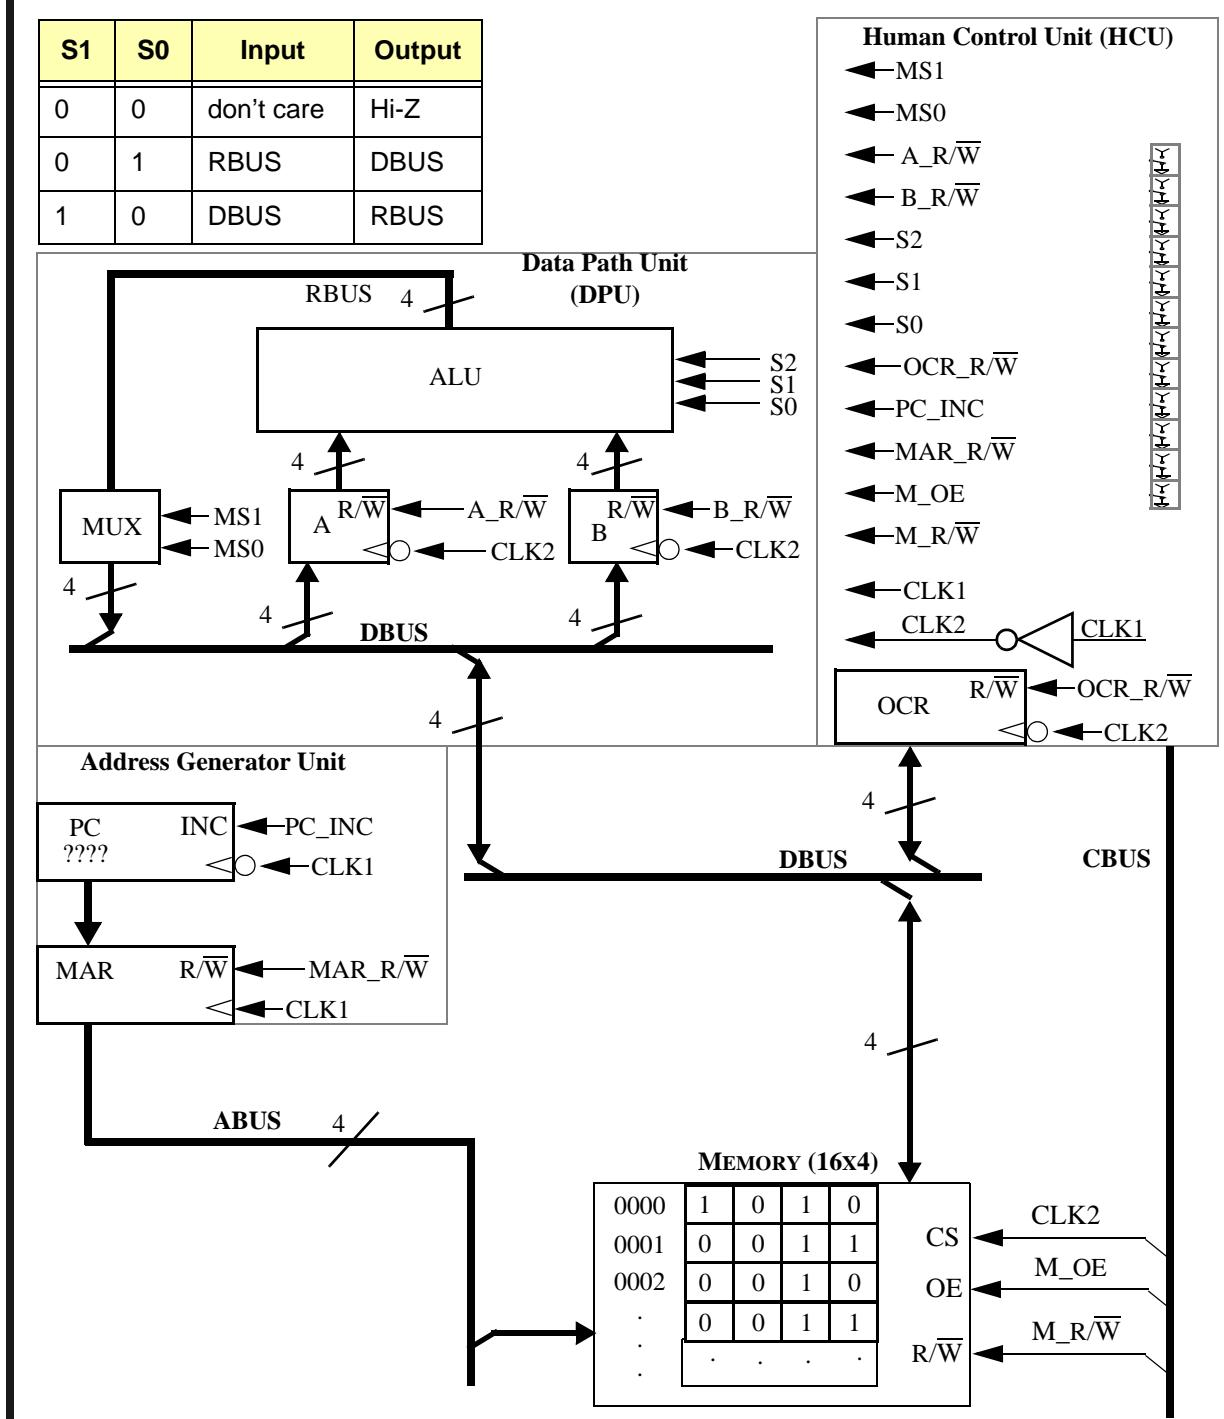

Fig. 1. A tiny data processor.
1. You are given: a data processor as shown in Fig. 1; the ALU function table given in Table 2; and the MUX control table given in Table 3. This question asks you to design the micro-operations for the macro-instruction: $\text{SUB } N_1, N_2 (N_2 - N_1)$. The binary encoding of this instruction is: 0011 N₁N₂, where 0011 is the opcode, N₁ is the 4-bit operand #1, and N₂ is the 4-bit operand #2. The result of this operation should be stored in Register B. Note: a design goal is to implement this macro-instruction with the least number of micro-operations, and your solution will be graded accordingly. Note: design all micro-operations, including fetch. Note: the program counter can be incremented by one by making PC_INC=1 and providing the clock edge, as indicated in Fig. 1.
[1.3] An example instruction SUB 0010,0011 has been placed in the memory of Fig. 1. By analyzing the contents of the memory, determine the initial value of the PC so that the first instruction the machine executes is "SUB 0010,0011" and write that value down here: _____